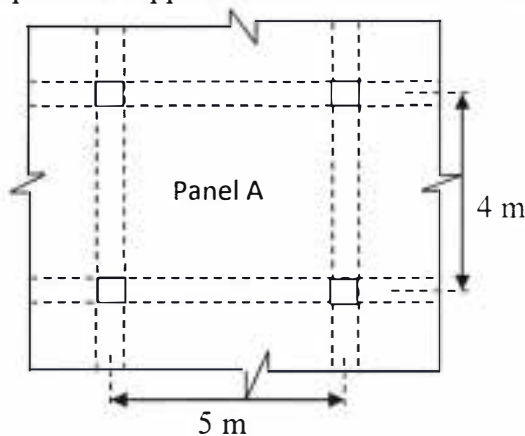

Figure 1. Interior slab panel
- a. An interior panel of beam supported reinforced concrete slab of office building as shown in **Figure 1** is to be designed. The slab is subjected to 7.2 kN/m^2 dead load (including self-weight, random wall and finishes) and 2.4 kN/m^2 live load. The thickness of slab could be assumed as 125 mm. Apply the concept to design the short span of slab for moment at mid-span and support. The co-efficient of moments are listed in **Table 1**. [10]